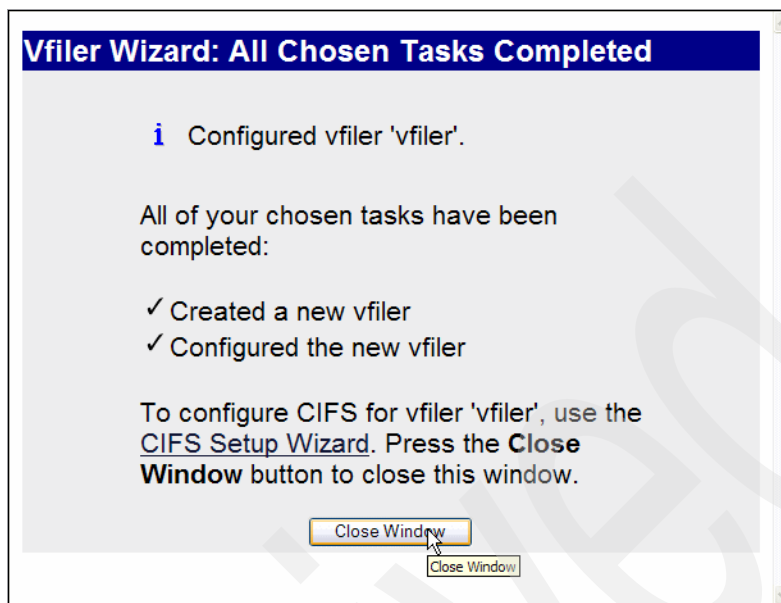

Figure 9-30 Vfiler configured
10. Vfiler is configured. Click **Close Window**, as shown in Figure 9-30 on page 320.